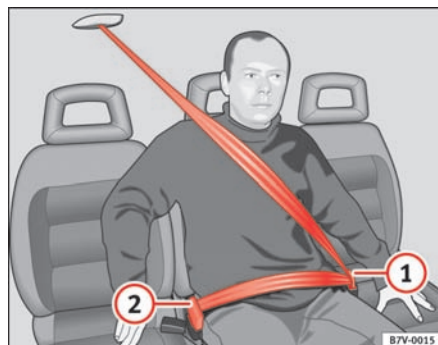

Fig. 17 Unfastening seat belt with two buckles
- Press the red button in the belt buckle ⇒ fig. 17 . The latch plate is released and springs out.